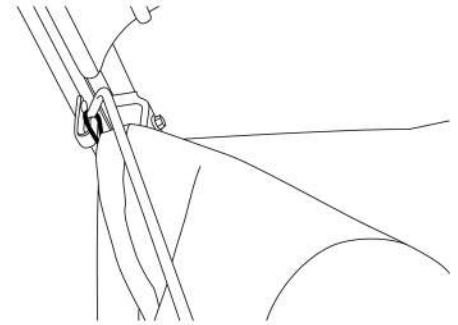

Figure 6. Select Loop and Hook to Coach Bracket
4. 4.1. Place the desired loop on the assist cane and hook the loop over the bracket on the coach. (Refer to Figure 6)